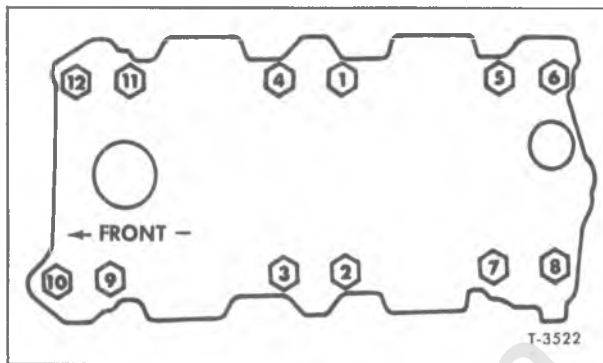

Figure 29—Intake Manifold Bolt Tightening Sequence on 350 V8 Engine
3. Install manifold and torque bolts to "Specifications" in the sequence shown in figure 29 or 30.